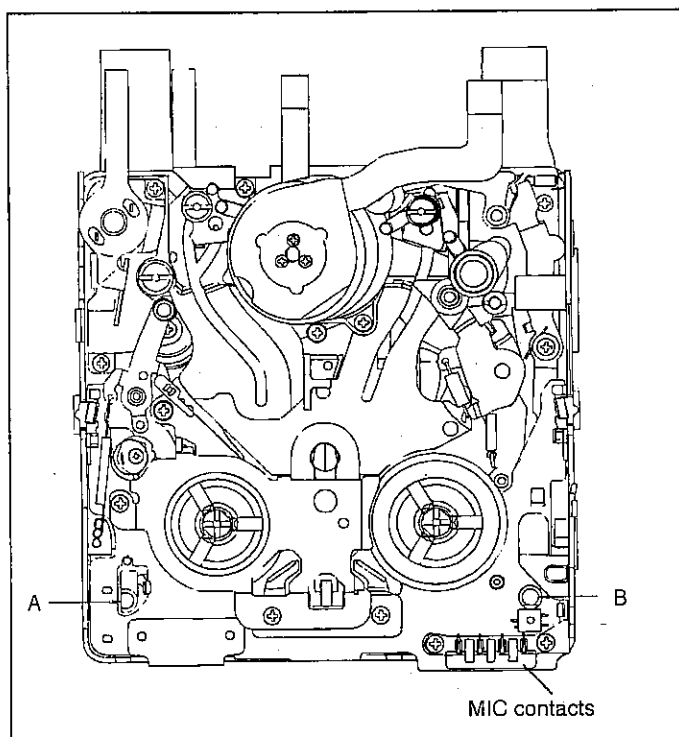

Fig. 3.
(1) Remove the cassette control assembly (refer to 9-2).
(2) Referring to 9-1, apply DC3V to the loading motor and put the system into FF (REW) mode.
(3) Taking adequate care so that the master plane does not contact drum, running parts (guide roller, etc.), or the MIC contacts. Fit the master plane holes to the 2 guides (A and B) in Fig. 3.